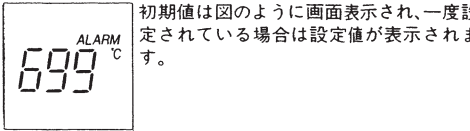

Fig. 6
- b. With ENT key pressed, push MODE key. 699 or the threshold value set previously is shown on the display, with the lowest digit blinking, (Fig.6)